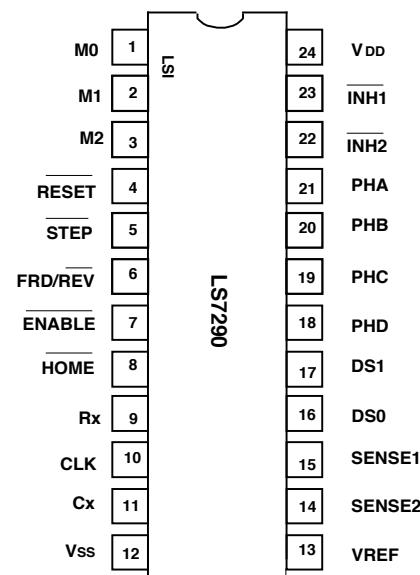

FIGURE 1
- LS7290 (DIP), LS7290-S (SOIC), LS7290-TS (TSSOP) - See Figure 1 -**